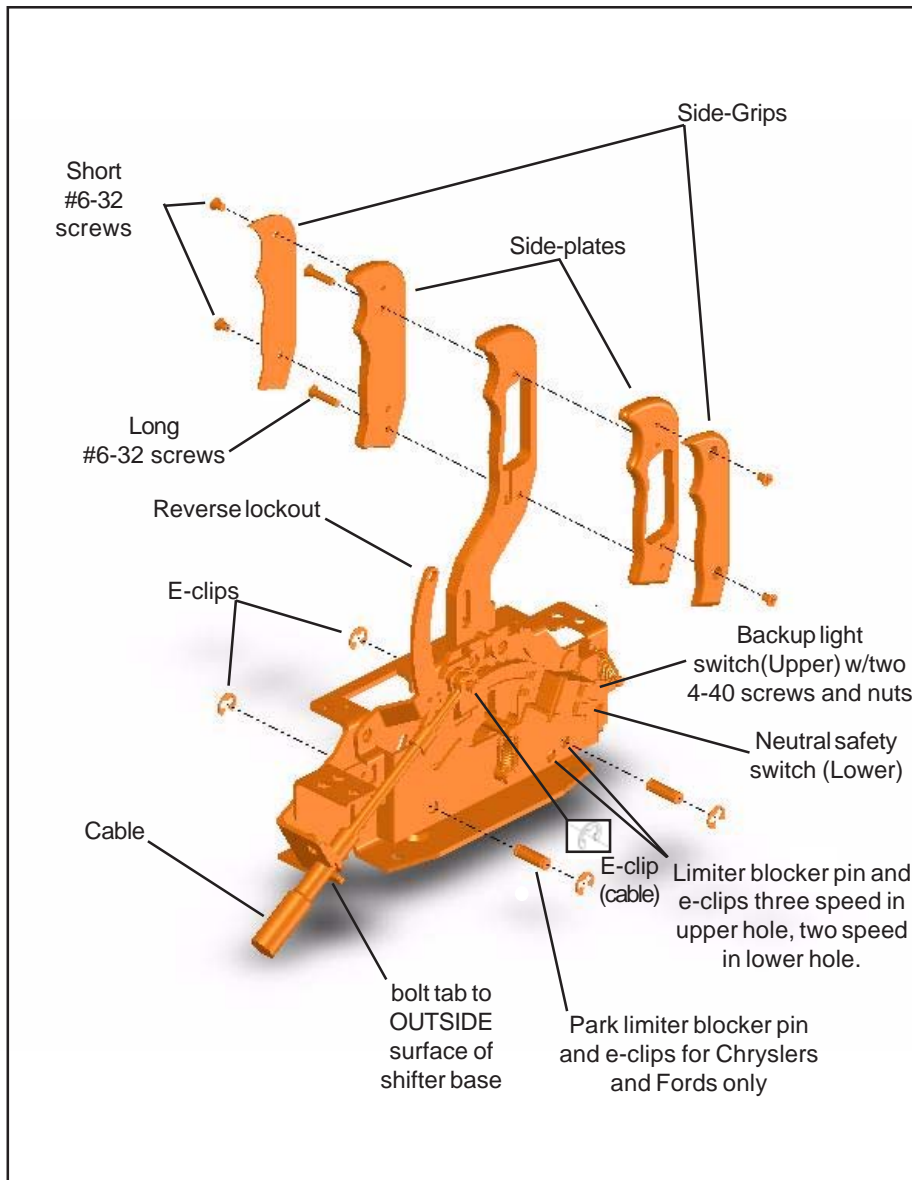

Figure 1
NOTE: If you are installing this shifter with a GM four speed automatic transmission, you must remove the three speed limiter blocker pin and the e-clips indicated in **Figure 1**. Removing this blocker pin gives the shifter four forward positions rather than three. For Ford AOD four speed automatic transmissions and Chrysler A-500 and A-518 four speed automatic transmissions do **not** remove this blocker pin, since these transmissions have only three forward positions. Also do **not** remove the blocker pin and the e-clips for any three speed automatic transmissions. (The three speed limiter
If you are installing this shifter with a Ford or Chrysler three or four speed automatic transmission you must install the Park limiter blocker pin and the e-clips as also indicated in **Figure 1**. This limiter limits the shifter travel into the Park position, so that it does not stretch the cable since Ford and Chrysler transmissions have less travel between Reverse and Park than GM transmissions do.
STEP 5. Install the cable on the shifter as shown in **Figure 1**. The cable attachment tab should be bolted to the outside surface of the shifter base using the supplied 1/4" X 1/2" bolt, lock washer and nut. Install e-clip to secure the cable.
STEP 6. Install the backup light switch and the neutral safety switch in place on the shifter mechanism as shown in **Figure 1**. Install them using the two supplied #4-40 screws, nuts and lock washers. If necessary, bend the fingers slightly so that they engage the slots. **Caution:** Overtightening the switch attachment screws will crack the switch housings.
STEP 11. If you have a four speed automatic transmission, be sure that you have removed the three speed limiter blocker pin shown in **Figure 1**. If you have a three speed automatic transmission, the three speed limiter blocker pin and e-clips should be installed. The Park limiter blocker pin and
chanical interlock, otherwise you have a neutral safety switch. With either type, disconnect the battery ground cable to prevent accidental shorts. If you have a neutral safety switch, locate and identify the neutral safety wires (engine will not crank unless these wires are connected together). Extend the wires from the GM switch to the shifter. Strip a 1/4" of insulation off the wires and install the slip-on terminals supplied in the kit. Crimp the terminals onto the wires using a crimping tool or pliers. Connect the neutral safety wires to the **LOWER** switch and the backup light wires to the **UPPER** switch (See Figure 1). Tape the terminal connections and all other connections to prevent shorts.
STEP 17. Be sure that the Park limiter blocker pin and the three speed limiter blocker pin are both installed as shown in Figure 1. The Park limiter will prevent the shifter from additional travel beyond the Ford Park position. (GM transmissions have greater travel between Neutral and Park than Ford transmissions do). The three speed limiter blocker pin is required because all Ford three and four speed automatic transmissions have only three forward gear positions, even the four speed AOD.
wires to the **UPPER** switch (See Figure 1). Tap the terminal connections to prevent shorts. Reconnect the battery ground cable, disconnect the coil wire and set the parking brake. Check the switch operation by attempting to start the motor in each shifter position. **The starter must crank only when the shifter is in the Park or the Neutral position.** Check the backup light operation when the shifter is shifted to the Reverse position. Adjust the switches if required. Reconnect the coil wire. Go to Step 37.
STEP 22. Be sure that the Park limiter blocker pin and the three speed limiter blocker pin are both installed as shown in **Figure 1**. The Park limiter will prevent the shifter from additional travel beyond the Chrysler Park position. (GM transmissions have greater travel between Neutral and Park than Chrysler transmissions do). The three speed limiter blocker pin is required because all Chrysler three and four speed automatic transmissions have only three forward gear positions, even the four speed A500 and A518.
STEP 24. Neutral safety/backup light switch. '66-'68: The neutral safety switch will continue to function normally. It will not be necessary to hook up the neutral safety switch wires on the shifter. Disconnect the battery ground cable before wiring the backup light switch. Locate the original backup light switch on the steering column or the console shifter. Run these wires to the **UPPER** switch on the **B&M Composite X Pro Ratchet Shifter (See Figure 1)**. Reconnect the ground wire and check the light for proper operation. Adjust the switches on the shifter if required. '69 and Later: The neutral safety/backup switch is located on the transmission and will continue to function normally. It will not be necessary to connect any wires to the switches on the shifter. Go to **Step 37**.
STEP 35. Be sure that the two speed limiter blocker pin and e-clips are installed as shown in **Figure 1**. The two speed limiter blocker pin is required because the Powerglide has only two forward gear positions.